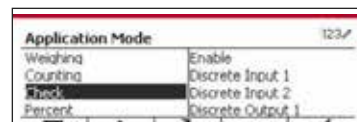

Figure 61
2. With the button corresponding to the ▼ icon, go down the list and highlight Application Mode. Enter this submenu by pressing the button corresponding to the ✓ icon. (See Figure 61)